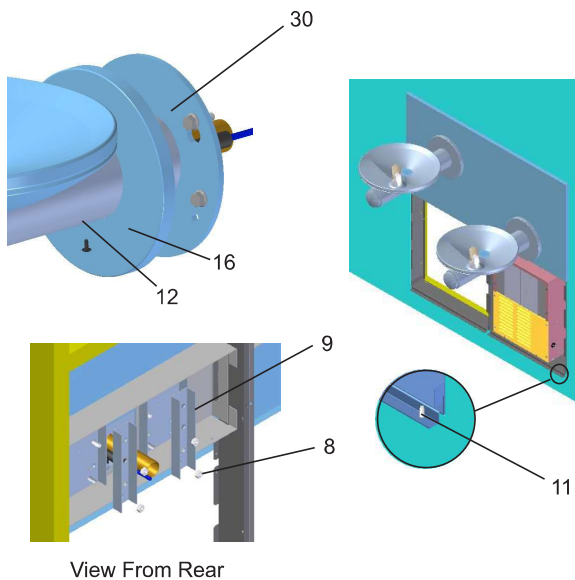
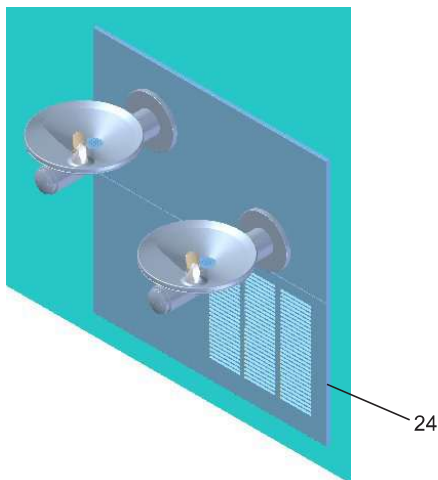

Figure 6 - Fountain Installation
Figure 7 - Lower Panel Installation
6. **Install** the fountain. Remove the screw (Item 12) from cover plate and slide cover plate (Item 16) toward basin. Mount the fountain to the upper panel and frame with (4) 5/16" x 1" (25mm) bolts (Item 27), brackets (Item 9) and nuts (Item 8) provided. Tighten securely. **Brackets (Item 9) must be installed as shown to properly support fountains.** (See Figure 6)
12. **Mount lower panel.** Loosen the three (3) #10-24 x 5/8" (16mm) screws (Item 11 - Figure 6) at frame bottom lip. Slide upper tongue of lower panel under lower edge of already installed upper panel. Tighten previously loosened screws securely. (See Figure 7)